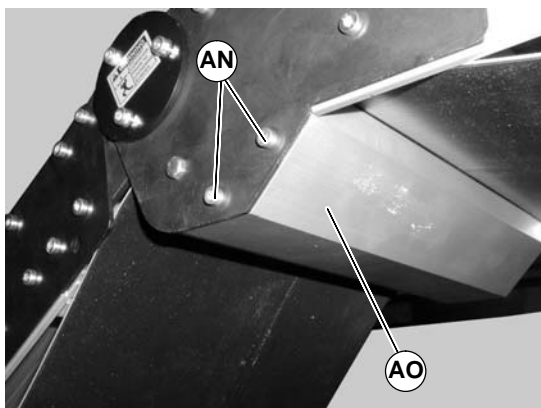

Figure 32
6. Install knuckle guard (AO of Figure 32) with screws (AN) on both sides of knuckle. Tighten screws to 25 in-lbs (3 N-m).